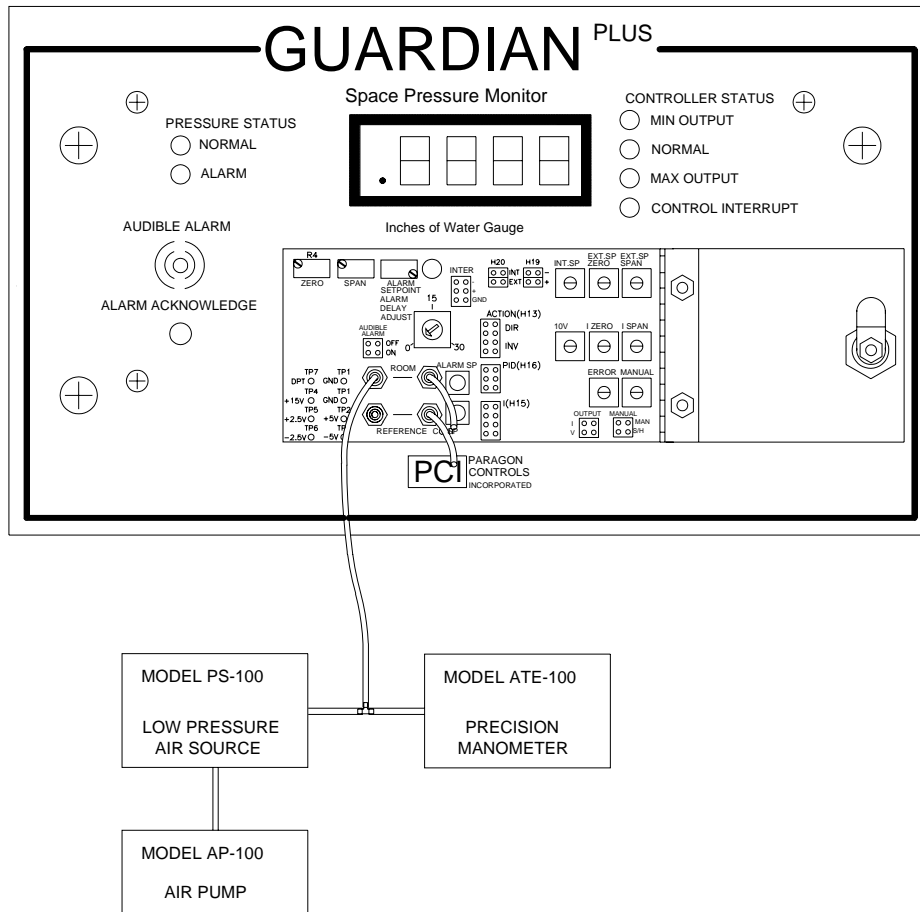

FIGURE 1.0 GUARDIAN PLUS PRE-STARTUP CHECK
(Refer to Figure 1.0 for test point and adjustment locations)
- 3) Refer to Figure 1.0 for test set-up and Figure 2.0, 3.0 & 4.0 for test point and potentiometer locations.